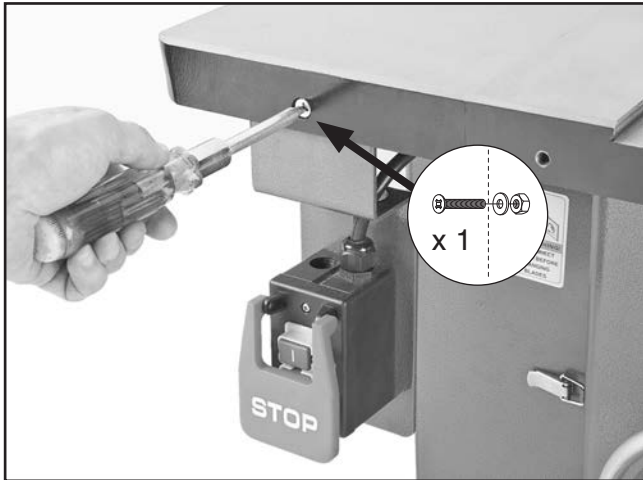

Figure 20. Installing switch.
- Attach switch to extension wing with (1) $\frac{5}{16}$ "-18 x $\frac{3}{4}$ " flat head screw in front, as shown in **Figure 20**, and (1) $\frac{5}{16}$ " flat washer and (1) $\frac{5}{16}$ "-18 hex nut in back.